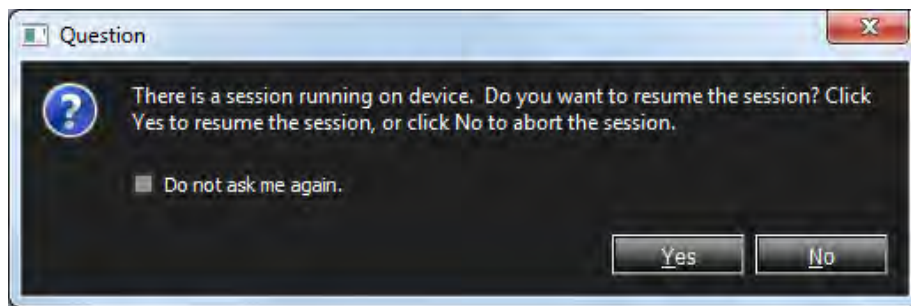

Figure 3.11: Prompt to Resume the Session or Not
3. Click **OK** to continue your recording session. The following prompt appears (Figure 3.11).